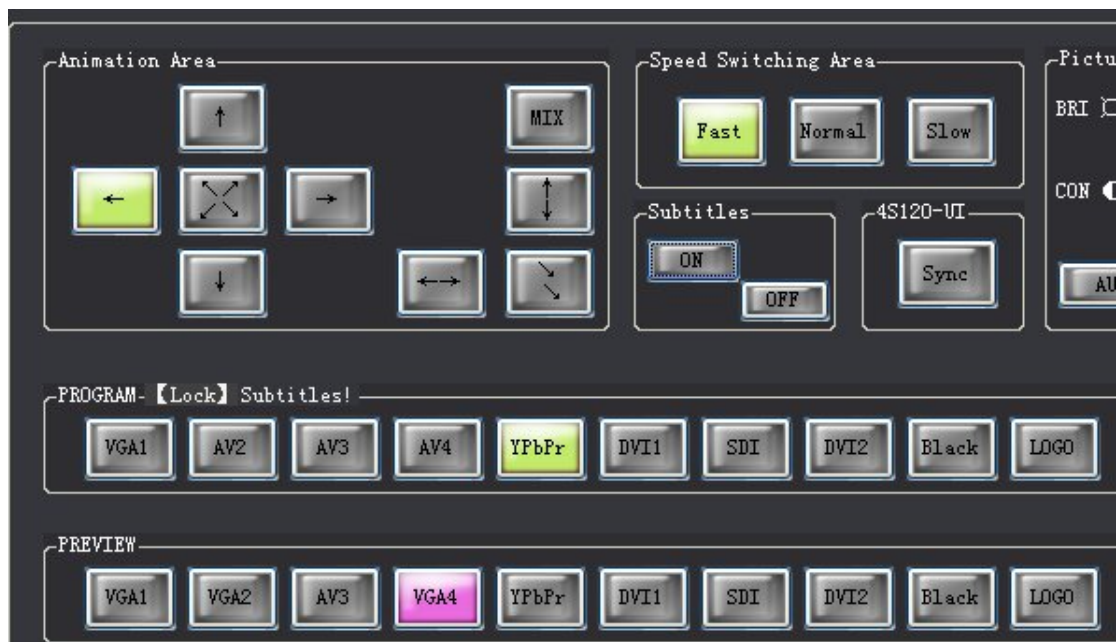

Fig 4.9 Character being overlapped on VGA4
**【 ON 】** Insert subtitles: Firstly choose from the preview window the desired signal (VGA1-4, CVBS1-4, YPBPR, SDI) to insert the subtitles, and then click [ON] to complete the operation of inserting subtitles. As shown in Fig 4.9